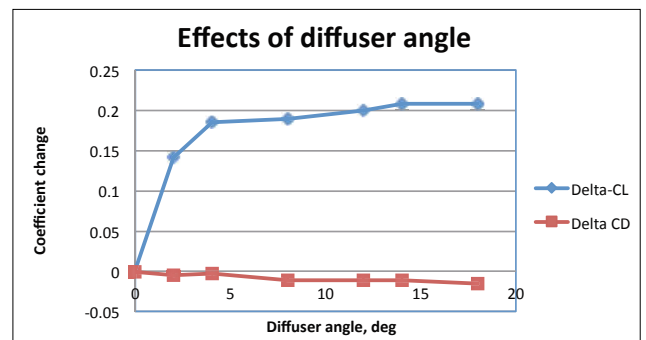

Figure 3: Diffuser angle had marked effects on downforce and drag
in the graphs in **Figures 3 and 4**. Ground clearance was 50mm (2in) in all cases (overall length was 3550mm or ~140in, so h/L was 0.0141).
Looking first at the data in **Figure 3**, it's apparent that generally drag (CD) declined modestly with increasing diffuser angle, whereas downforce (-CL) increased initially very markedly but then more modestly, up to around 14 degrees before levelling off. We'll return to possible mechanisms for this behaviour shortly.